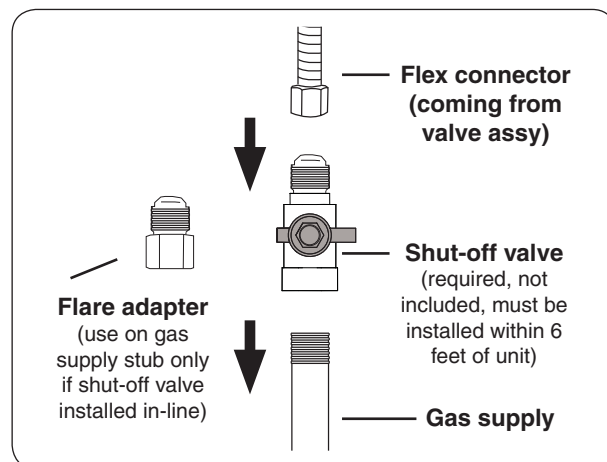

Fig. 19-1 Connecting to a gas line
- Connect the flex connector to the shut-off valve (see Fig. 19-1). Tighten securely.
- Install the supplied flare adapter to the gas supply using a pipe joint compound resistant to all gasses (see Fig. 19-1). Tighten securely.
- Connect the flex connector to the flare adapter (see Fig. 19-1). Tighten securely.